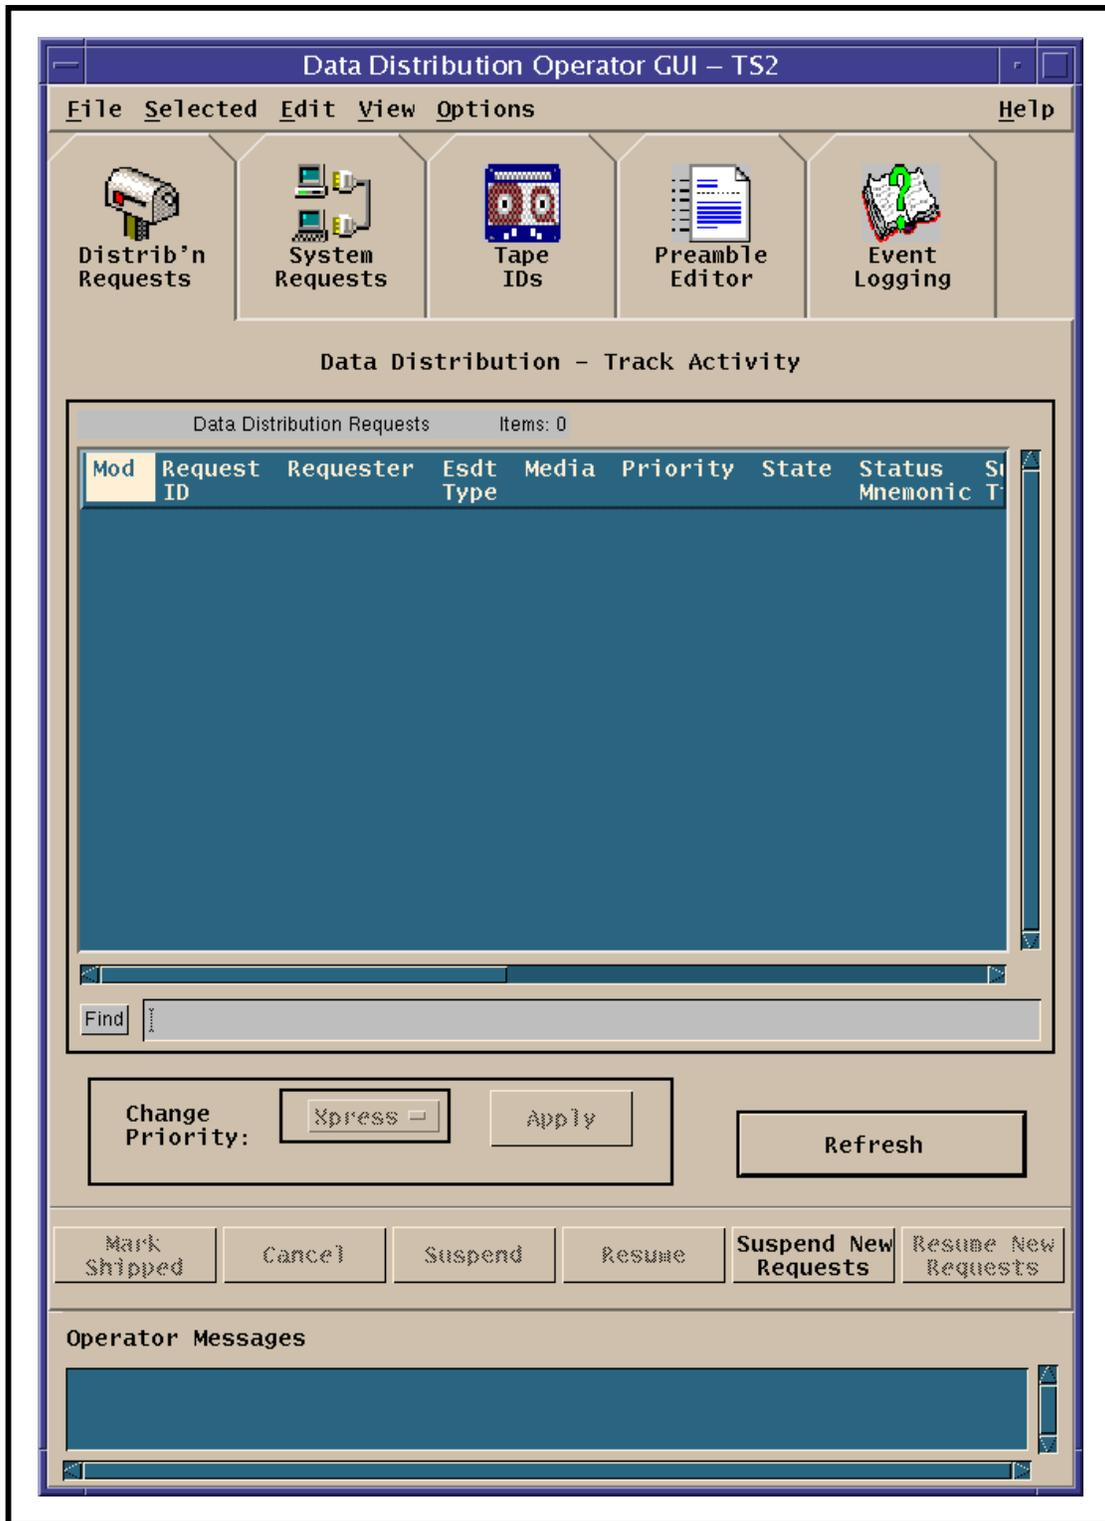

Figure 5. Distrib'n Requests Tab (Data Distribution Operator GUI)
- The **Data Distribution Operator GUI Distrib'n Requests** tab (Figure 5) is displayed.
The Ingest/Distribution Technician monitors and manages data distribution requests primarily via the **Data Distribution - Track Activity** window of the **Distrib'n Requests** tab (Figure 5) on the **Data Distribution Operator GUI**. From the **Data Distribution - Track Activity** window the DAAC Ingest/Distribution Technician can perform the following functions:
The procedure for monitoring data distribution requests starts with the assumption that all applicable servers and the **Data Distribution Operator GUI** are currently running and the **Distrib'n Requests** screen (Figure 5) is being displayed.
The procedure for configuring data distribution polling starts with the assumption that all applicable servers and the **Data Distribution Operator GUI** are currently running and the **Data Distribution - Track Activity** window (Figure 5) on the **Distrib'n Requests** tab is being displayed.
The distribution requests to be displayed in the **Data Distribution Requests** list (**Data Distribution - Track Activity** window shown in Figure 5) can be filtered using the